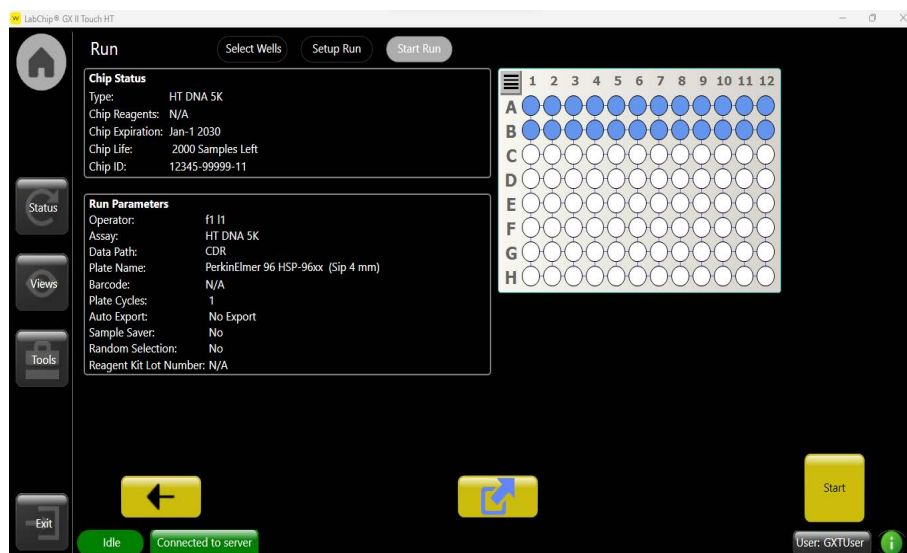

Figure 11. Starting a run.
- 4 Touch *Start* to begin the run (Figure 11).